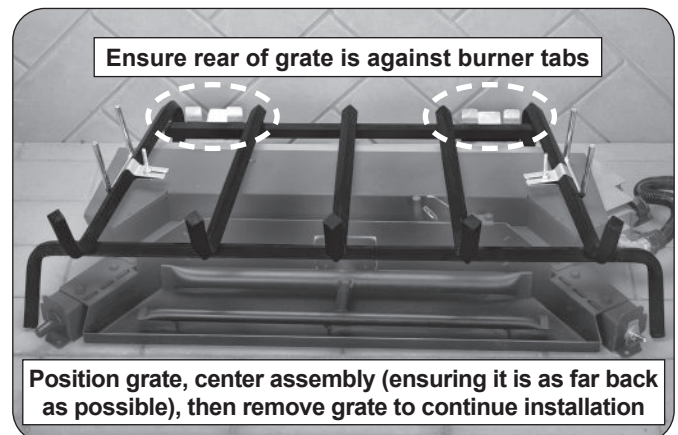

Fig. 13-3 Position grate and center assembly
1. Position the grate over the burner pan. Ensure it is up against the tabs on the rear of the burner, and that the assembly is centered from left to right, and as far back as possible (see Fig. 13-3).